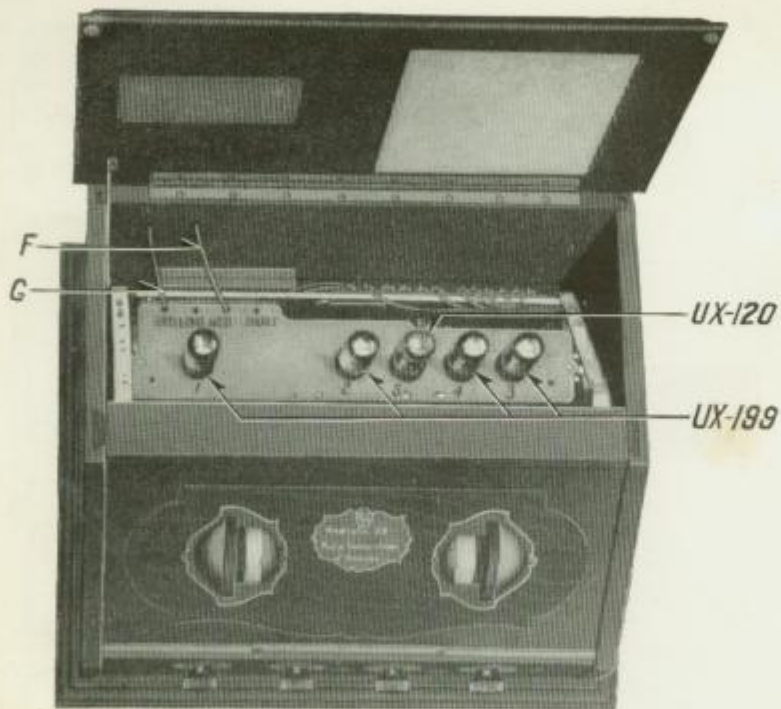
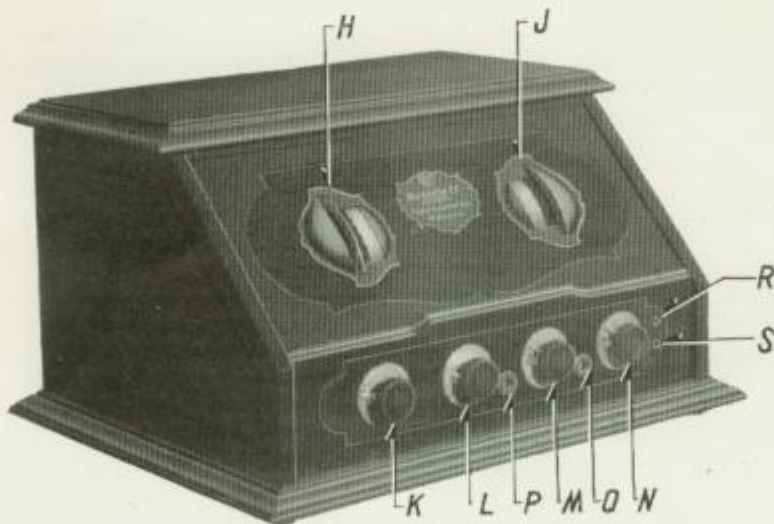

Fig. 3—Radiola 20, Showing Radiotrons in Place
Fig. 4—Operating Controls of Radiola 20
(b) *Insertion of Radiotrons*—Turn the "BATTERY SETTING" knob *M*, Fig. 4, to the left until the pointer rests on "OFF." Unpack the five Radiotrons, handling them with due care and
insert them in the sockets as shown in Fig. 3. Be sure to put Radiotron UX-120 (which is marked "FOR LAST AUDIO STAGE ONLY") in the middle socket, marked 5.
Turn the "VOLUME CONTROL" knob *N*, Fig. 4, to the right until its pointer rests at "LOUD," and turn the "BATTERY SETTING" knob *M*, Fig. 4, to the right to approximately "3" on its scale. The filaments of all the Radiotrons should now be lighted, as may be noted by the slight glow usually visible near the base of each tube. After determining that all
The terminal pin leading to the ground connection should be inserted in the "GRD" pin-jack as shown at *G*, Fig. 3. The other terminal pin leading to the antenna connection should be inserted in one of the antenna pin-jacks as shown at *F*, Fig. 3, the particular pin-jack used depending on the length of the antenna. An antenna whose total overall length including the lead-in is over 100 feet would be classed as long, one between 75 and 100 feet would be considered medium, while one less than 75 feet in length would be designated as short.
Following the above recommendations for the selection of the correct antenna pin-jack should result in the first radio frequency "VERNIER" control *K*, Fig. 4, being set at approximately "5" on its scale when tuned for maximum response. With certain types of antennae this result may not be obtained and it will then be advisable to use whichever antenna pin-jack causes the first radio frequency "VERNIER" control
Battery Setting—This control, shown at *M*, Fig. 4, serves to turn on and regulate the current to the filaments of all five of the Radiotrons. **When Radiola 20 is not in use, this control must be turned as far as possible to the left so that the pointer rests at "OFF."**
Volume Control—This control, shown at *N*, Fig. 4, serves to regulate the volume and does so by controlling the filament current of the Radiotron at the extreme left. Loudest volume is secured by turning this knob to the right as far as it will go.
Station Selector—The drum control at the left of the sloping panel, shown at *H*, Fig. 4, serves to tune the three radio frequency circuits to the frequency (or wavelength) of the desired broadcast station.
Verniers—The two knobs at the left of the vertical control panel, shown at *K* and *L*, Fig. 4, allow a more accurate adjustment of the first two of the radio frequency circuits controlled by the "STATION SELECTOR" drum located just above.
Amplification—This drum control, shown at *J*, Fig. 4, serves to control the regeneration in the detector circuit.
Insert the phone plug of a loudspeaker or telephone headset into one of the two jacks shown at *P* and *Q*, Fig. 4. In general, the left hand (first stage) jack *P* will be used for head telephone reception, and the right hand (second stage) jack *Q* for loudspeaker operation.
Filaments—Turn the "VOLUME CONTROL" *N*, Fig. 4, to "LOUD." Turn the "BATTERY SETTING" control *M* to a position where good results are obtained. With new "A" batteries this point comes at about 3.25 on the scale. Raise the cover and note that all Radiotrons are lighted. The life of the Radiotrons will be considerably lengthened by setting the pointer of the "BATTERY SETTING" control as far to the left as practicable and then advancing slightly to improve the quality of reproduction. This control may be advanced from time to time as the "A" batteries grow weaker.
- (a) Turn both "VERNIER" controls *K* and *L*, Fig. 4, to a scale setting of "5."
- (b) Turn the "AMPLIFICATION" drum *J*, Fig. 4, to a scale setting of approximately "8."
- (c) With the left hand move the "STATION SELECTOR" drum *H*, Fig. 4, from one end of its scale toward the other until a whistle is heard which varies in pitch as this drum is moved.
- (g) Try the antenna lead *F*, Fig. 3, in each of the three antenna jacks. Leave it in the jack which results in the loudest signal. (This setting should preferably be made for a station tuned in near the middle of the "STATION SELECTOR" drum scale.)
- (f) Adjust the second "VERNIER" control *L*, Fig. 4, so that the whistle is loudest.
- (g) Likewise adjust the first "VERNIER" control *K*, Fig. 4, to loudest whistle.
NOTE—In case the whistle is received loudest with the pointer of this "VERNIER" at either end of its scale ("0" or "10") change the antenna lead *F*, Fig. 3, to another antenna pin jack. That jack should be used permanently which results in a scale setting of "VERNIER" *K*, Fig. 4, nearest to "5" when a whistle is being received at loudest volume with a setting of the "STATION SELECTOR" drum near "50."
Voltmeter—In order to obtain the maximum useful life of Radiatrons and batteries, it is recommended that a high-grade high-resistance type voltmeter be used to adjust the filament terminal voltage to a value not exceeding 3.3 volts. This voltage may be measured by inserting the leads of the voltmeter, preferably equipped with phone tips, into the pin-jacks *R* and *S*, to the right of the "VOLUME CONTROL" knob *N*, Fig. 4. With the "VOLUME CONTROL" at "LOUD" and the "BATTERY SETTING" control at "OFF," insert the voltmeter leads not more than one inch into the pin-jacks, the lead from the positive (+) terminal of the voltmeter entering the lower pin-jack. Then advance the "BATTERY SETTING" control slowly until the voltmeter registers the proper value—which should be as low as will give good results and should **never be over 3.3 volts**. Whenever the "VOLUME CONTROL" is used to reduce the volume, the voltmeter reading should be observed and the battery setting reduced, if necessary.